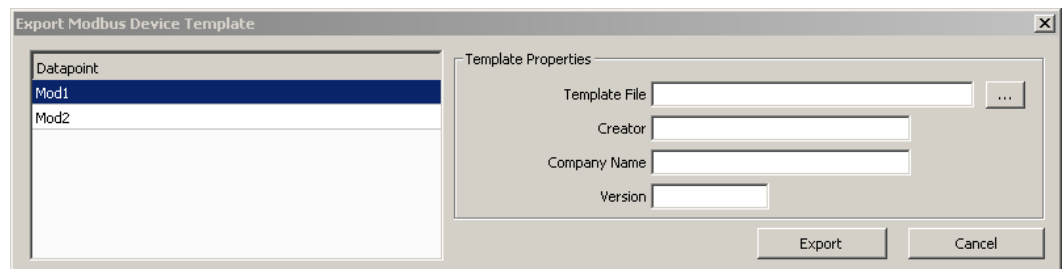

Figure 281 Export Modbus Device Template dialog.
- Press the **Export Device Templ.** button. This opens the **Export Modbus Device Template** dialog shown in Figure 281. The list on the left side of the dialog shows the names of the data points which are exported to the template.
- This opens the **Export Modbus Device Template** dialog as shown in Figure 281. Proceed as described above.